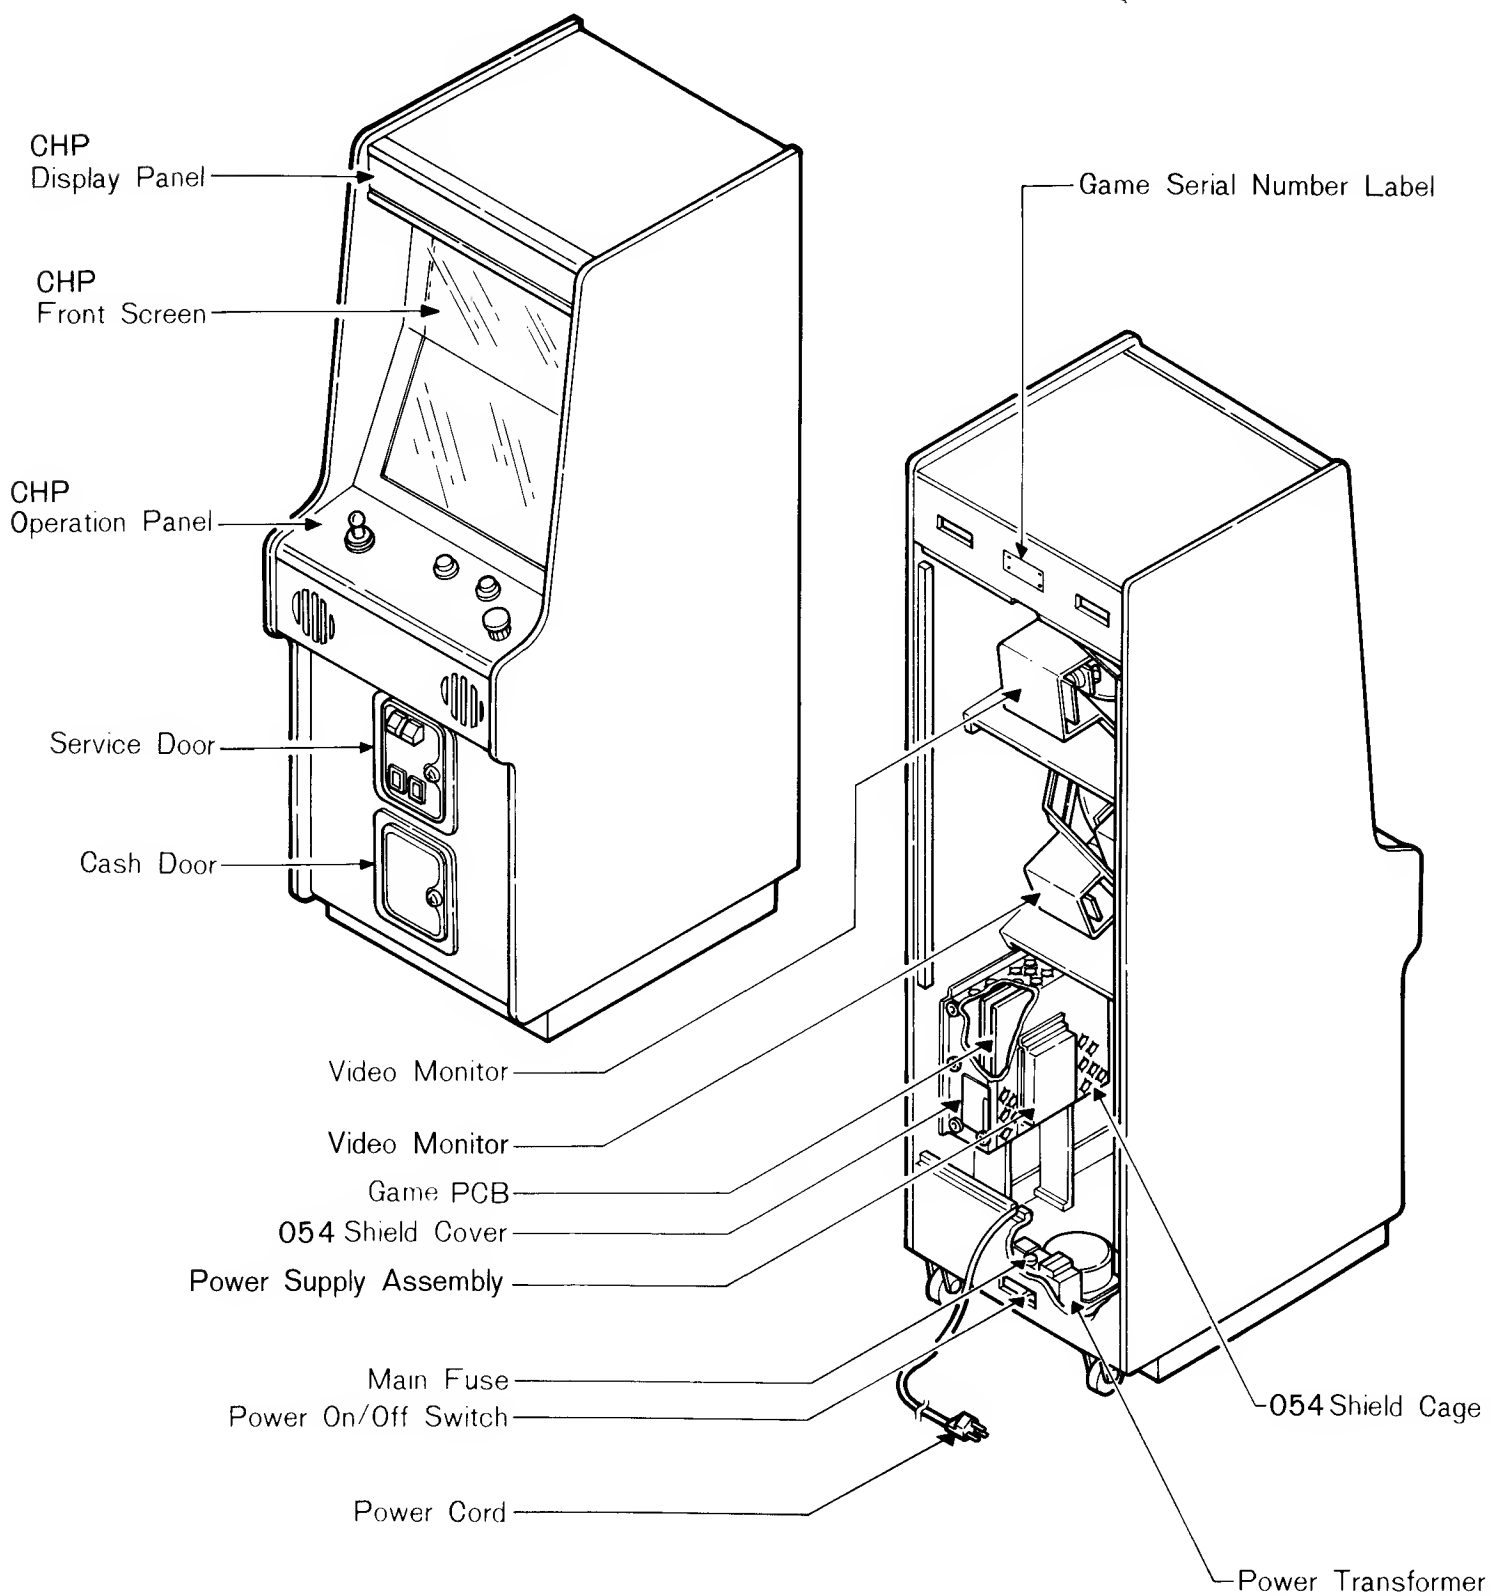

Fig. 1 Game Overview
A Power On/Off Switch is located in the rear of the game at the bottom center of the cabinet. See Fig. 1.
(1) Main Fuse	U.S. : 5A 125V ( 90~120V) Europe : 3A 250V (200~240V) See Fig. 1 and 3